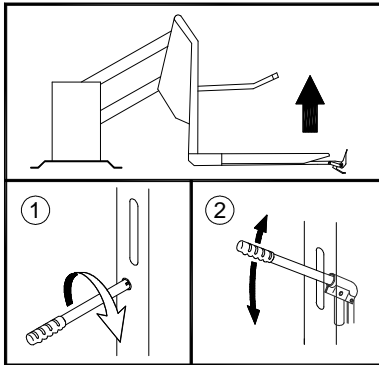

FIGURE 2-9: MANUAL BACK-UP PUMP – RAISE PLATFORM
- a. Refer to **Figure 2-9**. Check pump release valve to be certain it is closed. Insert pump handle into pump handle socket. Operate pump to begin raising platform.